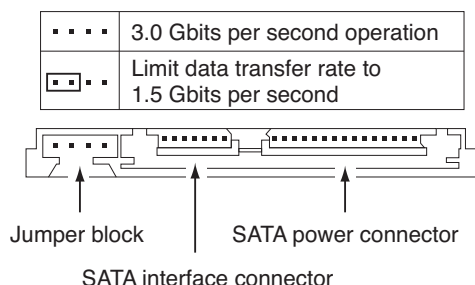

Figure 3. Serial ATA connectors
- Install a jumper as shown in Figure 3 below to limit the data transfer rate to 1.5 Gbits per second (and leave the drive connected to the SATA-equipped motherboard or host adapter that doesn’t support autonegotiation) or
- Install a SATA host adapter that supports autonegotiation, leave the drive jumper block set to “Normal operation” (see Figure 3 below), and connect the drive to that adapter. This option has the benefit of not limiting the drive to a 1.5 Gbits/sec transfer rate.